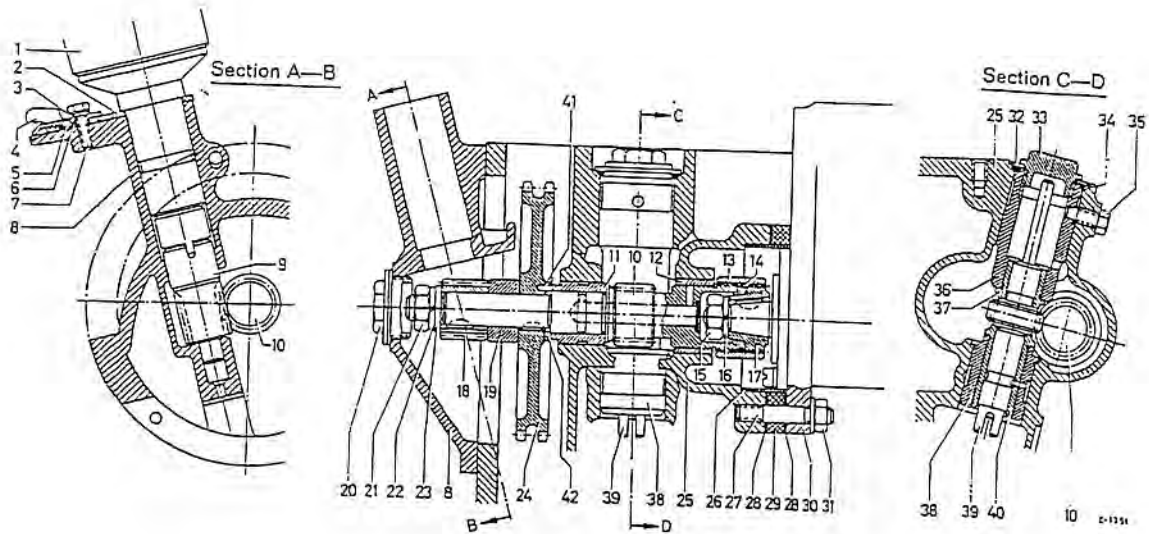

Fig. 18-6/3
chain tensioner, camshaft sprocket, diverter sprocket, distributor (1), distributor bearing (8) and upper pivot pin for bottom left guide rail. After backing off the hexagon nut (21) remove lock washer (22), shim (23), drive sleeve (18), front Woodruff key and spacing collar (19). Now back off the lock screw for the chain drive a few turns and remove idling gear (24) and stop ring (42) from idling gear shaft (Fig. 18-6/3).